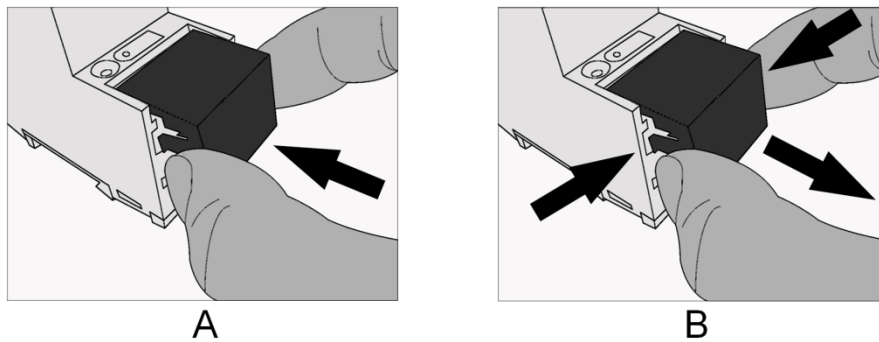

Figure 2: Mounting/removing a cover cap.
- Mounting the cover cap: The cover cap is pushed over the supply terminal until it audibly engages (cf. Figure 2: *Mounting/removing a cover cap A*).
- Removing the cover cap: The cover cap is removed by pressing it in slightly on the side and pulling it off to the front (cf. Figure 2: *Mounting/removing a cover cap B*).